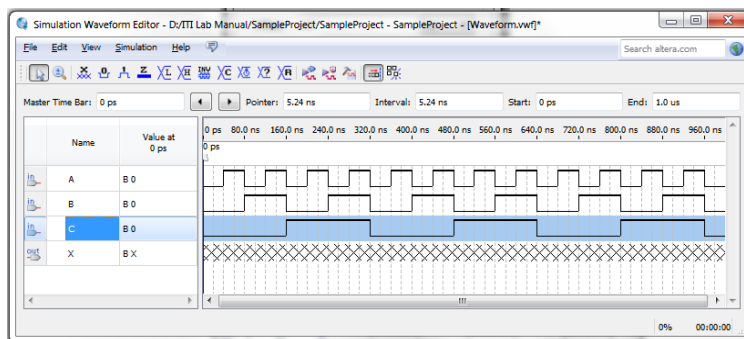

Figure 4.5.8: Input assigned
- o The inputs now have values (Figure 4.5.8).